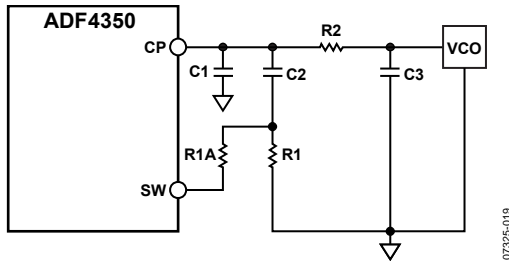

Figure 32. Fast-Lock Loop Filter Topology—Topology 2
- An extra resistor (R1A) is connected directly from SW, as shown in Figure 32. The extra resistor is calculated such that the parallel combination of an extra resistor and the damping resistor (R1) is reduced to  $\frac{1}{4}$  of the original value of R1 (see Figure 32).